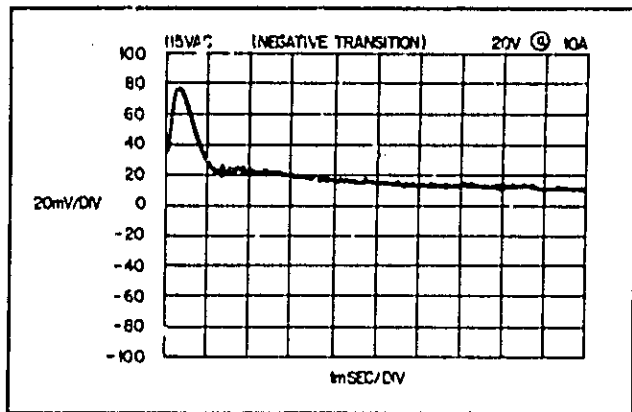

Figure 5-9. Load Transient Recovery Waveform
- Adjust the oscilloscope to display transients as in Figure 5-9.